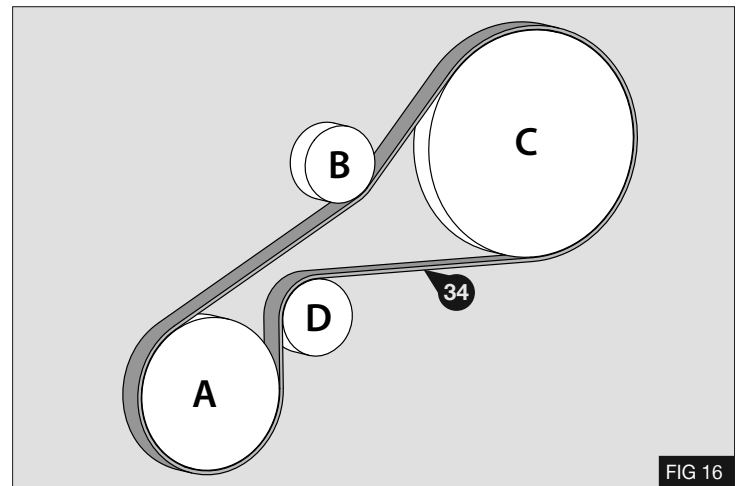

FIG 16
1. Fit compressor belt (34) into the correct grooves. - Fig 16 / 17